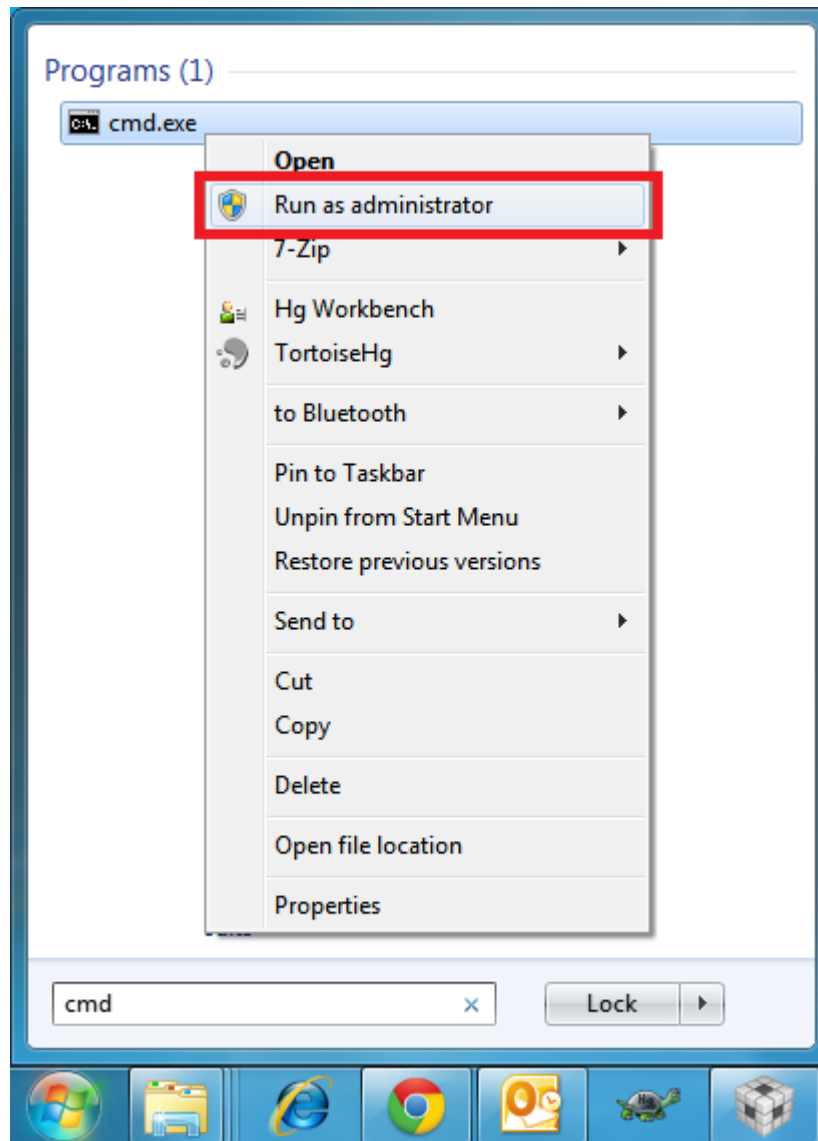

Figure 2-60. Windows 7 Run cmd.exe Right-Click Menu
5. Run the "Windows Command Processor" as an administrator. See Figure 2-60.